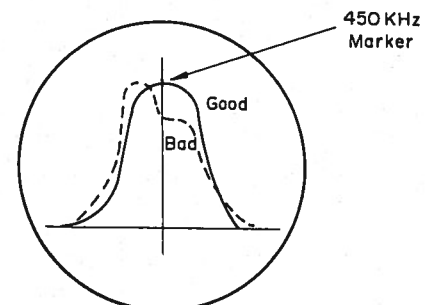

Figure 4
3. Adjust the sweep generator and oscilloscope's Controls to obtain a display similar to that shown in Figure 4, keep the generator's output as low as possible to avoid clipping and saturation.